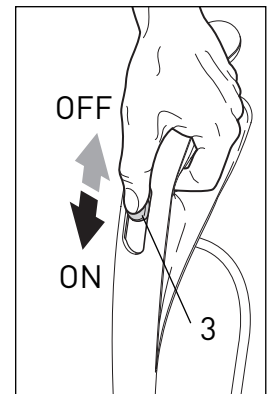

Figure 5
3. Slide the On/OFF switch (3) downward to the ON position - see figure 5.